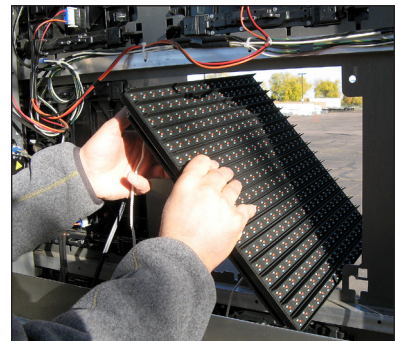
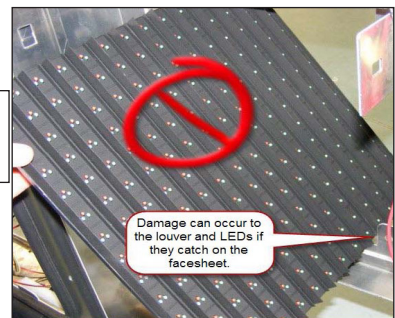

Figure 17: Proper Module Removal From Back
Figure 18: Improper Module Removal From Back
7. Rotate the module in a way that allows you to guide it through the frame opening without catching the louvers or LEDs on the cabinet. **Figure 17** shows proper module removal from the back. **Figure 18** shows improper module removal from the back.